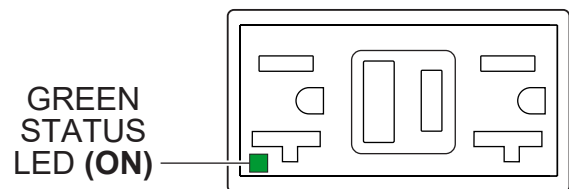

Figure 81. GFCI Receptacle (ON)
3. Verify that the status LED on the corresponding GFCI receptacle (Figure 81) is **ON (GREEN)**.